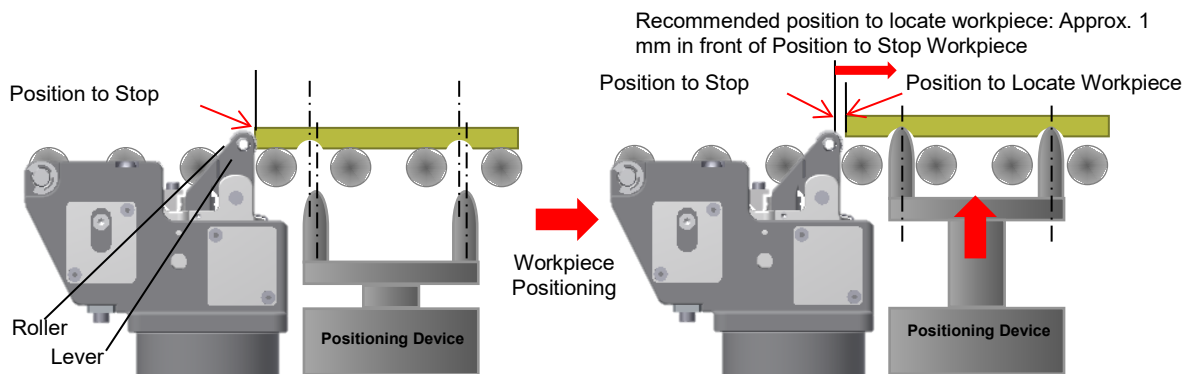
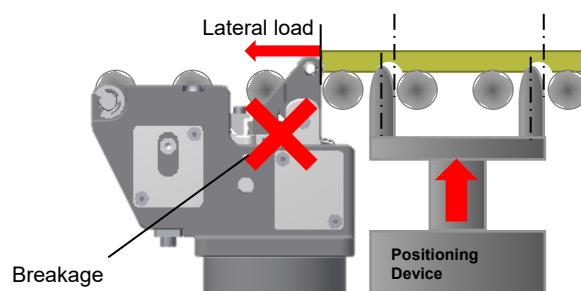

Fig. 2.4 Positioning a Workpiece
Fig. 2.5 Lateral Load Applied to Eco Electric Stop
- Mount Eco Electric Stop or a positioning device at a position where a workpiece is located at approx. 1 mm in front of the Position to Stop Workpiece as shown in Fig.2.4. Lateral load after the workpiece is stopped as shown in Fig. 2.5 may cause breakage of Eco Electric Stop.